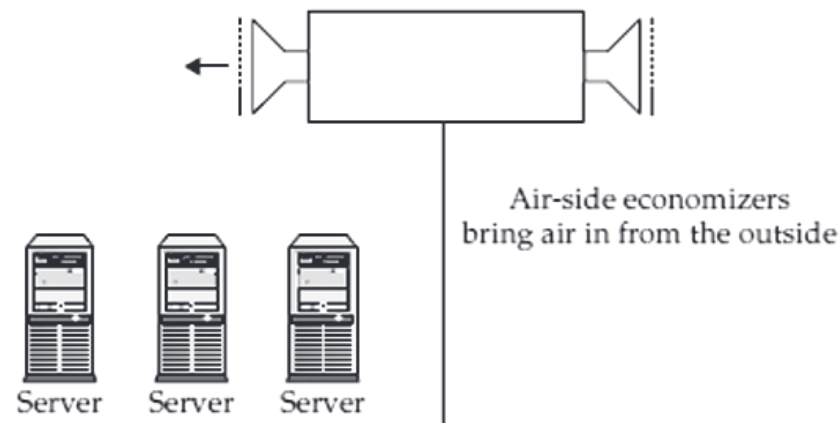

Fig. 2 Air-side economizers draw in outside air to cool the datacenter.
- This cuts or eliminates the need for the air conditioning system's compressors, which provides a big cost savings. This is illustrated in Figure 2.